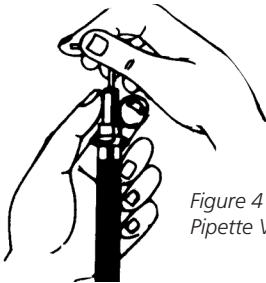

Figure 4 :
1. Insert the provided allen key into the push button end of the pipette. (See Figure 4)